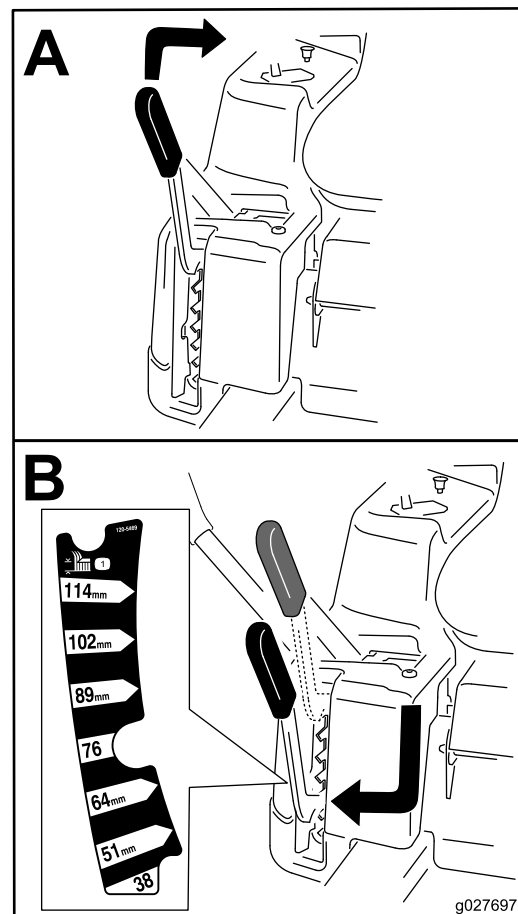

Figure 17
**Note:** The transport position is the highest height-of-cut position or cutting height 115 mm (4.5 inches) as shown in Figure 17.
Height of cut is controlled by the lever located to the right of the operating position (Figure 17).